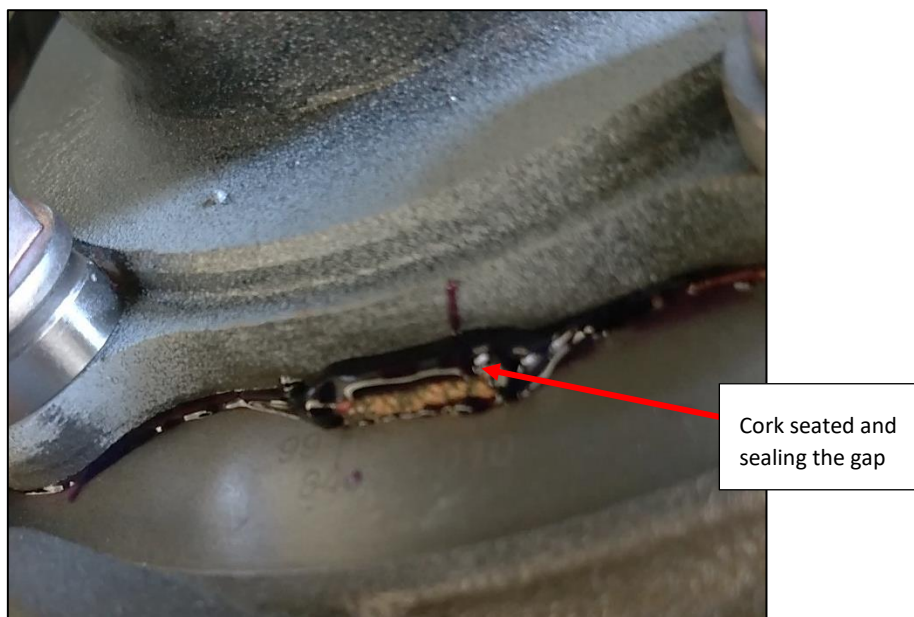

Fig. 20
- Apply Loctite® 515™ to the slot of the axle flange. When fitting make sure the cork fits correctly into the slot. See Fig. 20